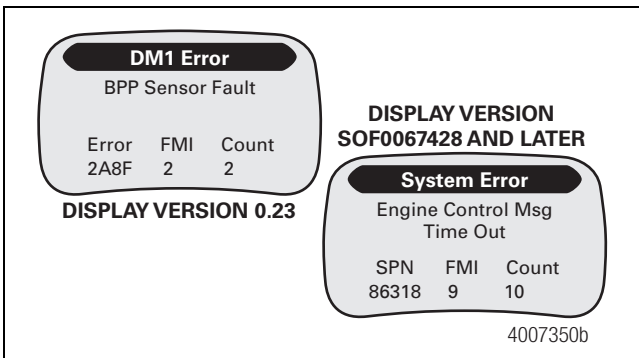
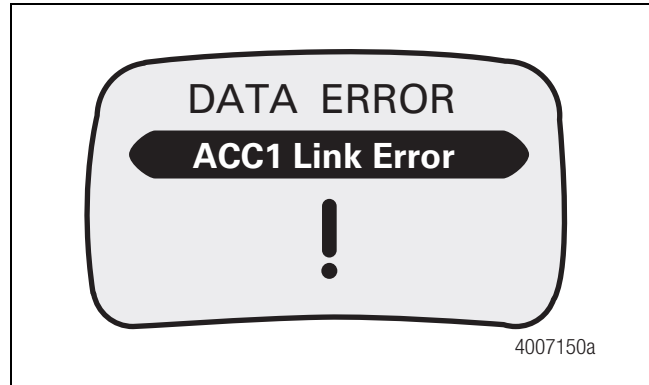
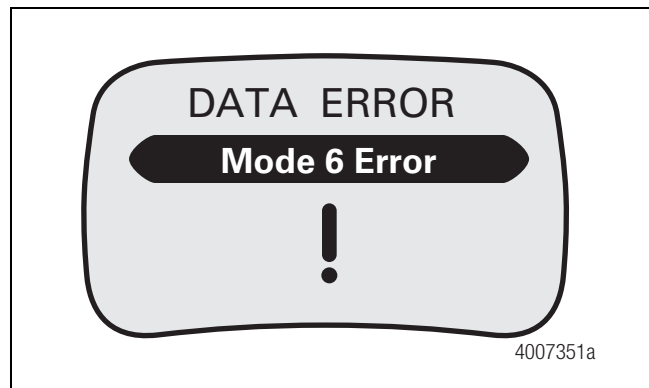

Figure 10
Figure 11
Figure 12
If a system fault is detected, the display will switch immediately to the error screen. Figure 10. On this screen, the first error code transmitted will be displayed. The UP/DOWN buttons will display additional faults if there is more than one current error. Refer to Maintenance Manual MM-0951, OnGuard™ Collision Safety System, for a full list of faults.
**NOTE:** OnGuard™ does NOT function when any error screen is on the display (Figure 10, Figure 11 and Figure 12).
If there is no communication between the OnGuard™ display and the radar sensor, an error screen indicating a broken data link to the OnGuard™ radar sensor will show. The display background is red. Figure 11.
If the OnGuard™ display shows a red screen with the message “Mode 6 Error”, the display is not able to correctly process error messages that the display is receiving from the radar sensor. Contact your vehicle manufacturer dealer or ArvinMeritor Customer Service Center at 800-535-5560 for further instructions. Figure 12.